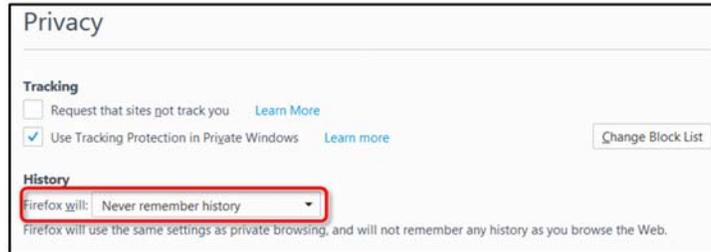

Figure 2: Never Remember History
3. Under **History**, select **Never remember history** from the **Firefox will:** drop-down list. See Figure 2.